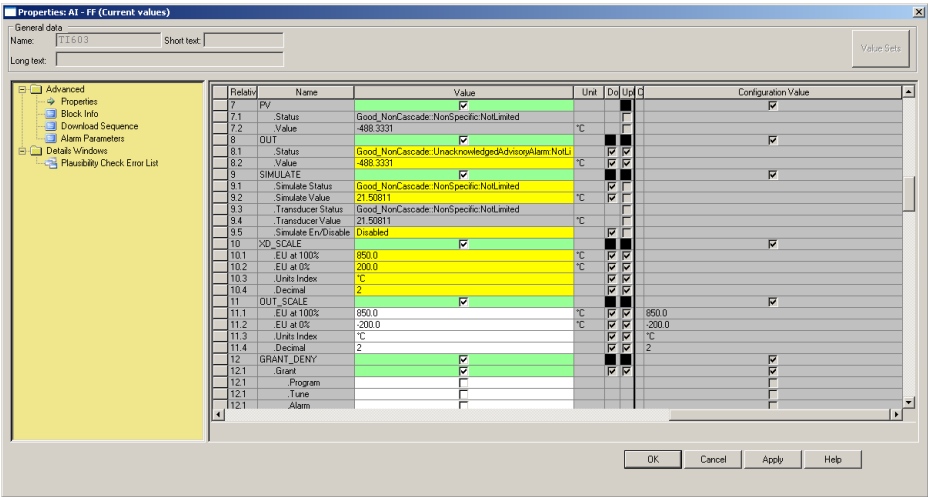

Figure 182. Online Parameters
- a. Open the Properties dialog of a function block by double clicking the block in the FF Application object or in the H1 device object (refer to Figure 182).